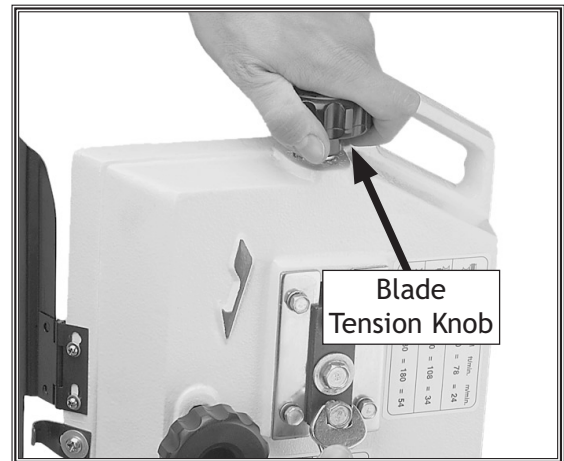

Figure 48. Blade tension knob.
4. Turn the blade tension knob in **Figure 48** clockwise to tighten the blade as tight as you can.